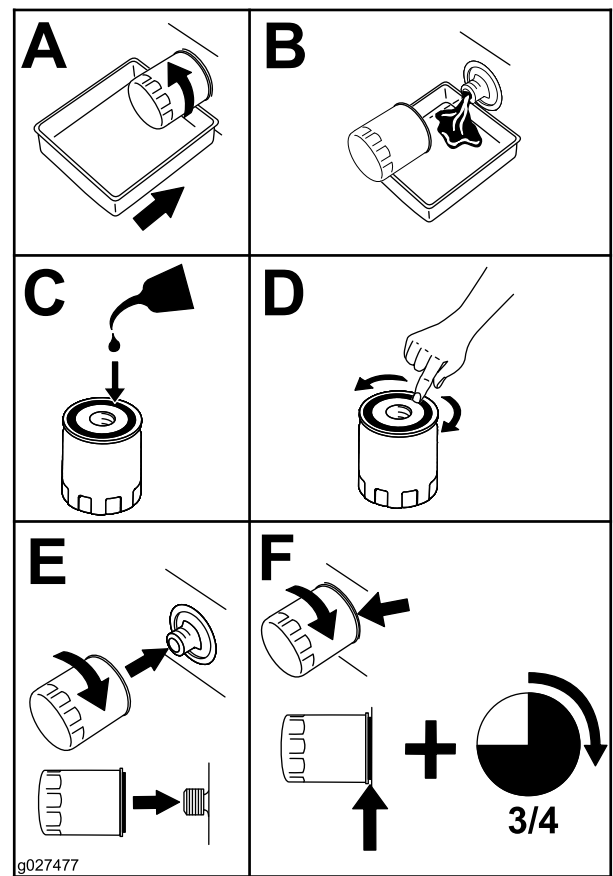

Figure 38
4. Replace the oil filter (Figure 38).